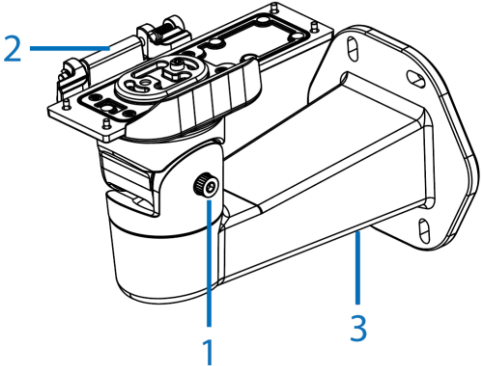

Figure 8
2. Unscrew the M5 Hex socket cap screw (1) (Figure 8) to remove the mounting arm plate (2) (Figure 8) from the mounting arm (3) (Figure 8).